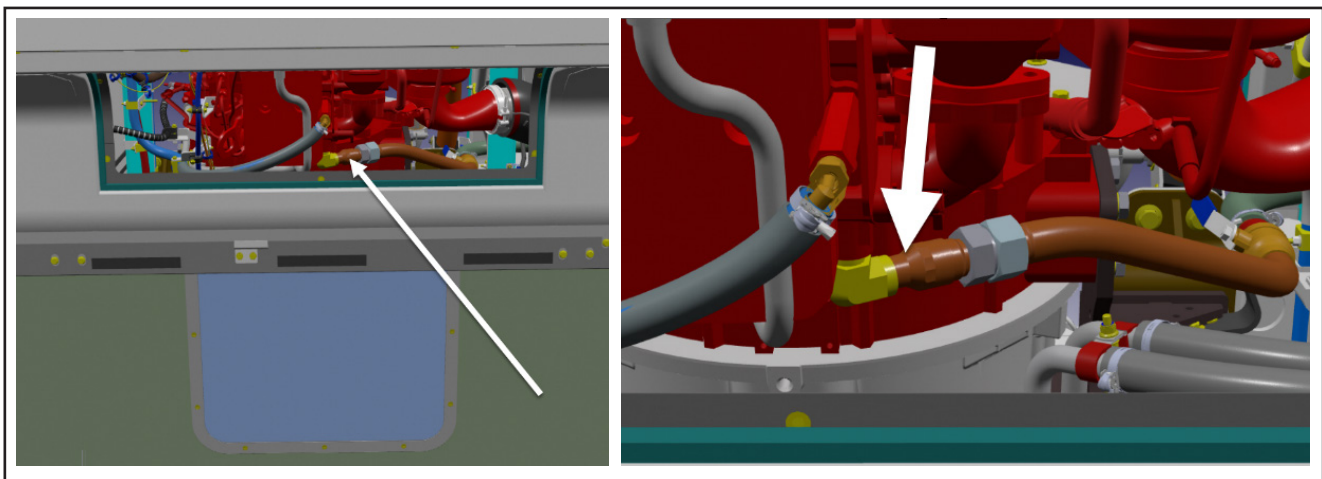

Figure 2 - View of Adaptor between Elbow and Copper pipe
- 1.5. Locate and inspect the adaptor located between the elbow and the copper pipe (see figure 2).